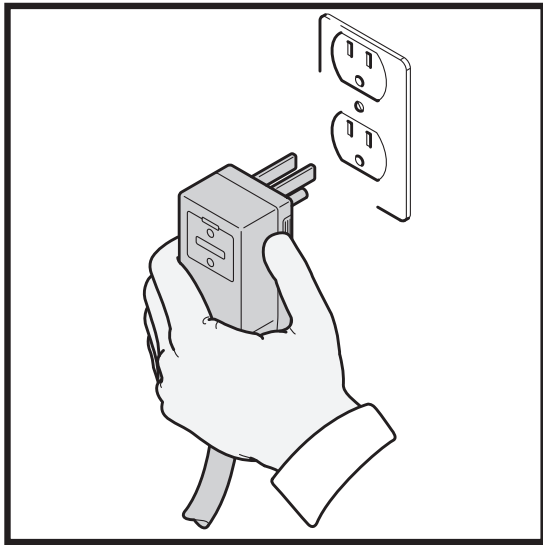

Fig. 18
- Unwind the power cord completely and plug the GFCI into a grounded 120 volt outlet. Press the '**reset**' button on the GFCI box (**Fig. 18**). The indicator window should show a red color. This must be done each time the unit is plugged in.